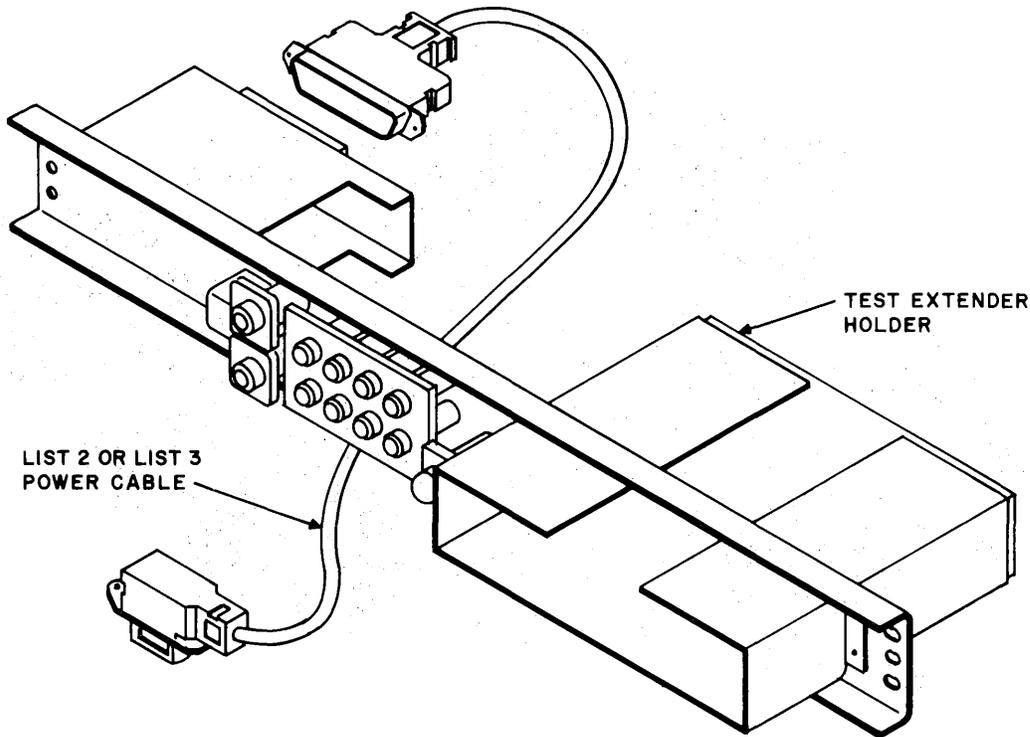

Fig. 14—J99380H Power Distribution and Feature Panel
5.12 Both the J99380H and J panels (Fig. 14 and 15, respectively) have provisions for relay isolated alarms which will operate either as a result of a power failure or a blown fuse on the panel. An alarm lamp on the panel will light in case of a blown fuse.